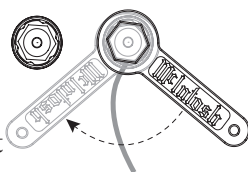

Figure 4— Tightening Input Post
- Place the supplied McIntosh wrench over the end of the Input Terminal and rotate it one quarter of a turn (90°) to secure the Loudspeaker cable connection. **Do not over tighten.** (*Figure 4*)